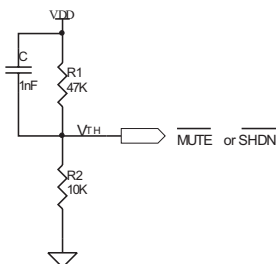

Figure 2: External Circuit to reduce power off pop noise
**Power off pop noise reducing:** for the best power-off pop performance, the amplifier should be placed in the mute /shutdown mode prior to removing the power supply voltage. An external circuit shows in figure 2 also can minimize the power off pop noise: the  $V_{TH}$  is set around  $1.3V @ V_{DD}=5V$  which is a little higher than the mute/shutdown threshold voltage, R1 reduce the internal resistor temperature coefficient and capacitor C speeds up the response. Note that this circuit can only work in between  $V_{DD}= 4.5V$  to  $5.5V$ , otherwise the PAM8403 can not work, other than the ratio of the resistor divider needs to be changed.